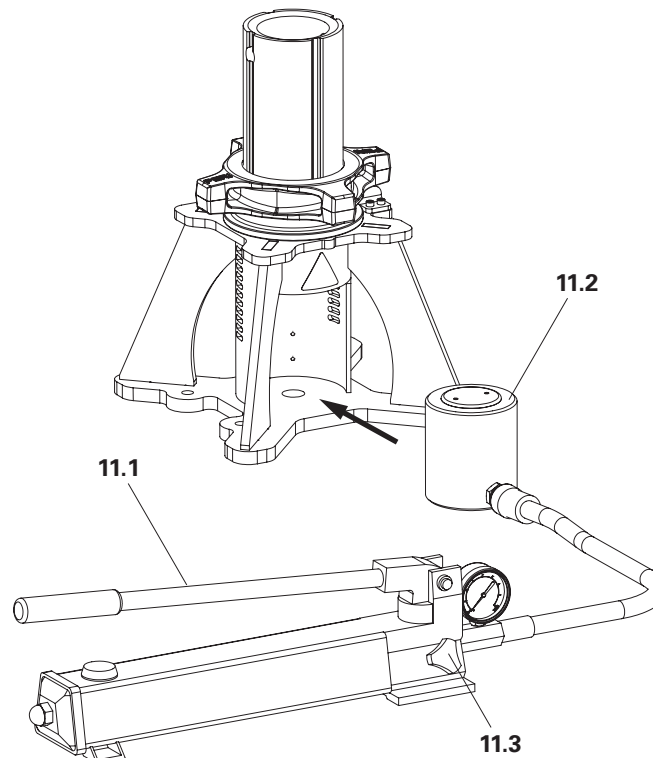

Fig. A5.01
- The pump valve (11.3) is closed. (Fig. A5.01 + A5.02)